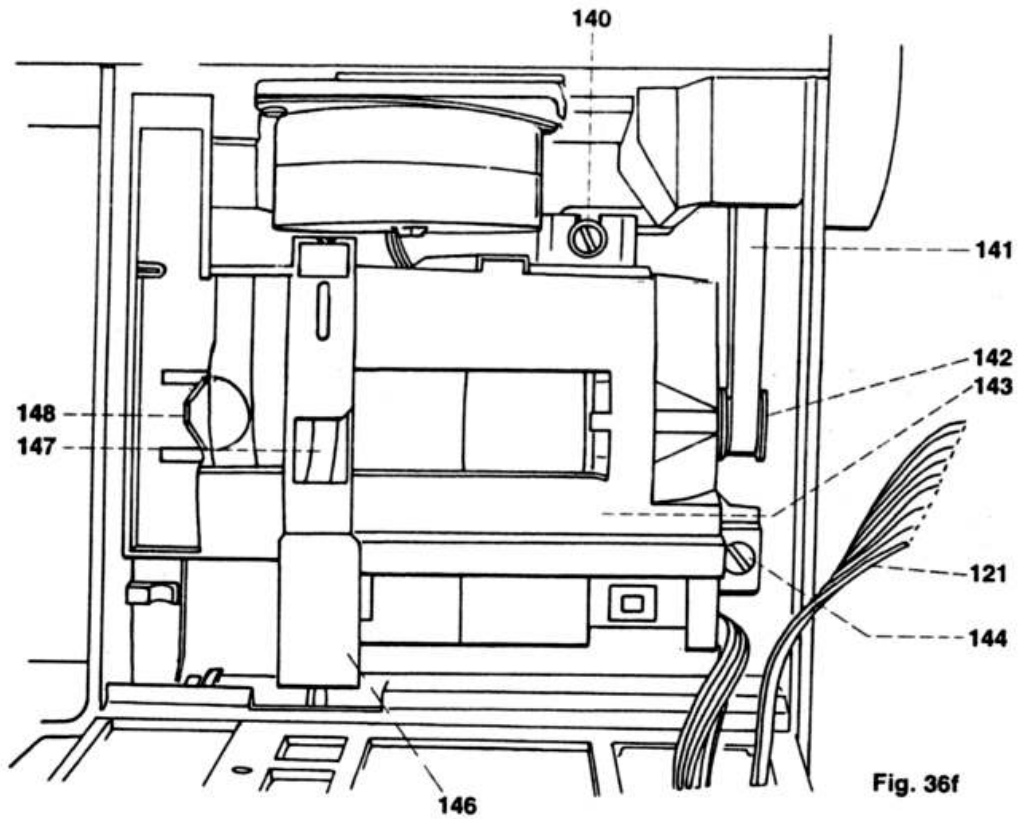

Fig. 36f
- Insert the motor and place motor sprocket 142 in toothed belt 141 (fig. 36f).